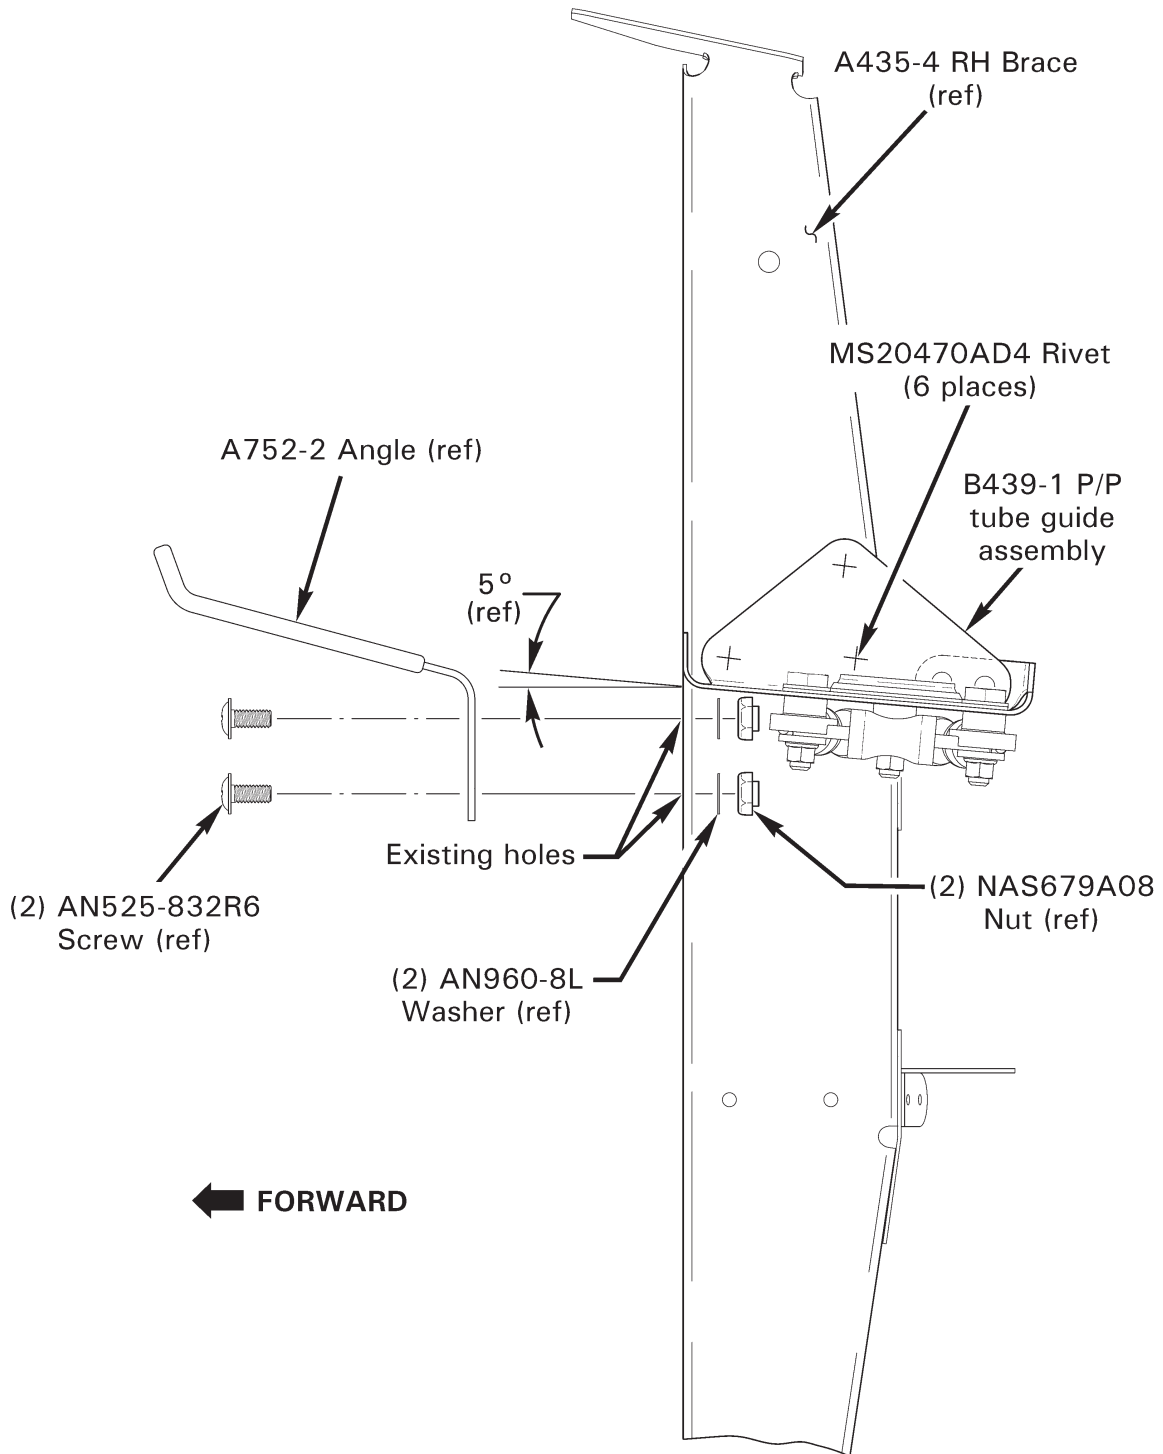

FIGURE 1 Installation of B439 P/P tube guide assembly
4. Refer to Figure 1. Remove and retain A752-2 angle (headset hanger) and attaching hardware from V-bulkhead. Exercise care when displacing foam insulation.
6. Refer to Figures 1 and 2. Position B439-1 push/pull tube guide assembly as shown. Note the 5° tilt of guide is inherent of design; do not adjust forward flange. Install guide assembly using noted rivets.